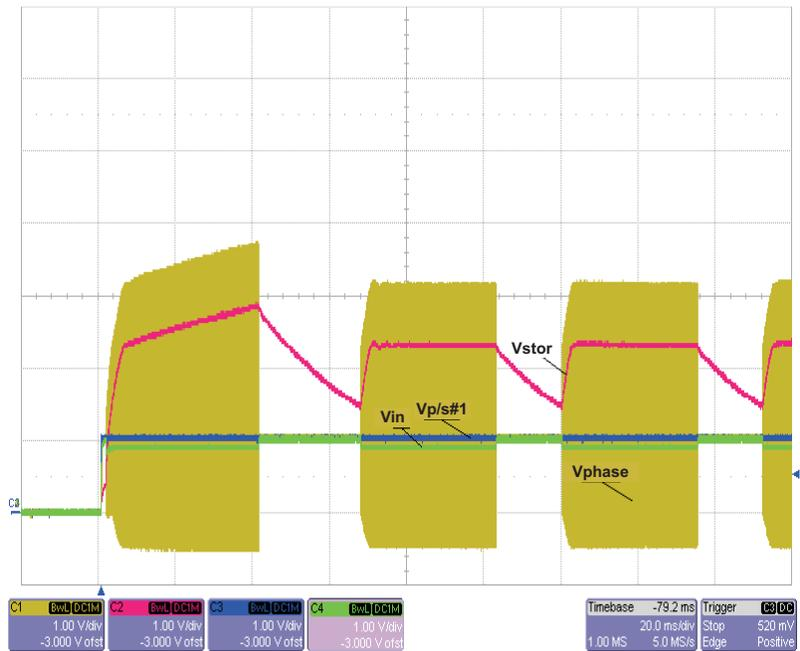

Figure 3. Startup with Battery Less Than UV
2. Set PS#1 to 1VDC and hot plug to input with 20Ω series resistor, see Figure 3.